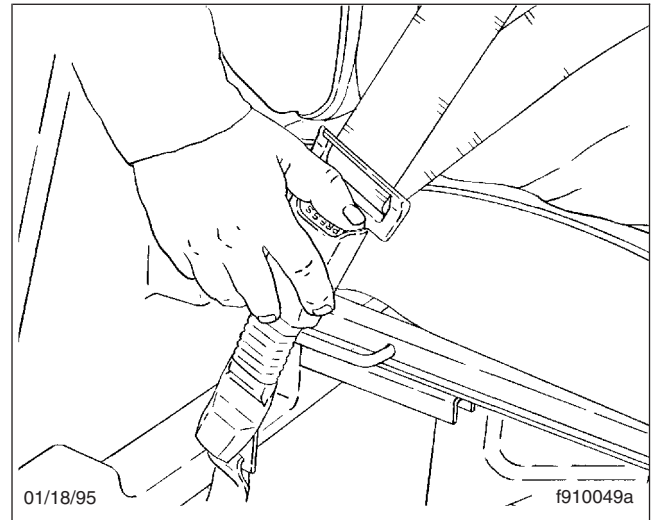

Fig. 7.11, Releasing the Three-Point Seat Belt
4. To unbuckle the three-point seat belt, push the button on the buckle as shown in Fig. 7.11. If the
6. To unbuckle the three-point seat belt, press the release button on the buckle; see **Fig. 7.11**.